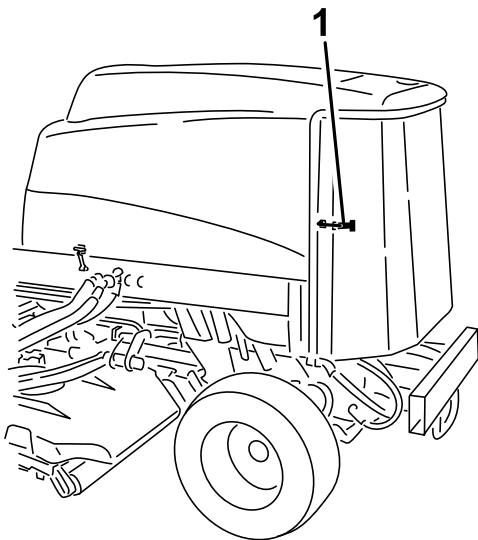

Figure 79
3. Unlatch and swing open the rear screen (Figure 79).